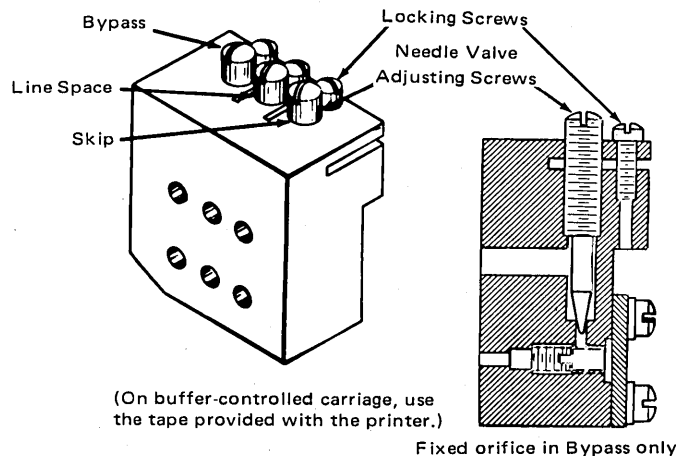

Figure 4-68. Needle Valves
4. Loosen the lockscrew for the center needle valve (the center right screw, Figure 4-68).
- b. Back off on the center left screw (Figure 4-68) until you feel the detent nip the detent wheel. The impact is transmitted through the screwdriver.
Loosen the lockscrew for the skip needle valve (the front right screw, Figure 4-68). (See 1.10.2.)
- b. Back off on the front left screw (Figure 4-68) until you feel the detent nip the detent wheel. The impact is transmitted through the screwdriver.
- (1) If no nipping is detected after turning out a maximum of five turns, stop the carriage motor so that the hydraulic pumps are not moving. Turn down on the front left screw until it is closed. Then back off five full turns on this screw. Tighten the lockscrew (the front right screw).
- (2) If nipping is detected, adjust the needle valve to stop the detent from nipping.
5. Loosen the bypass (right front) needle valve lock-screw (Figure 4-68) just enough to permit adjusting the needle valve.